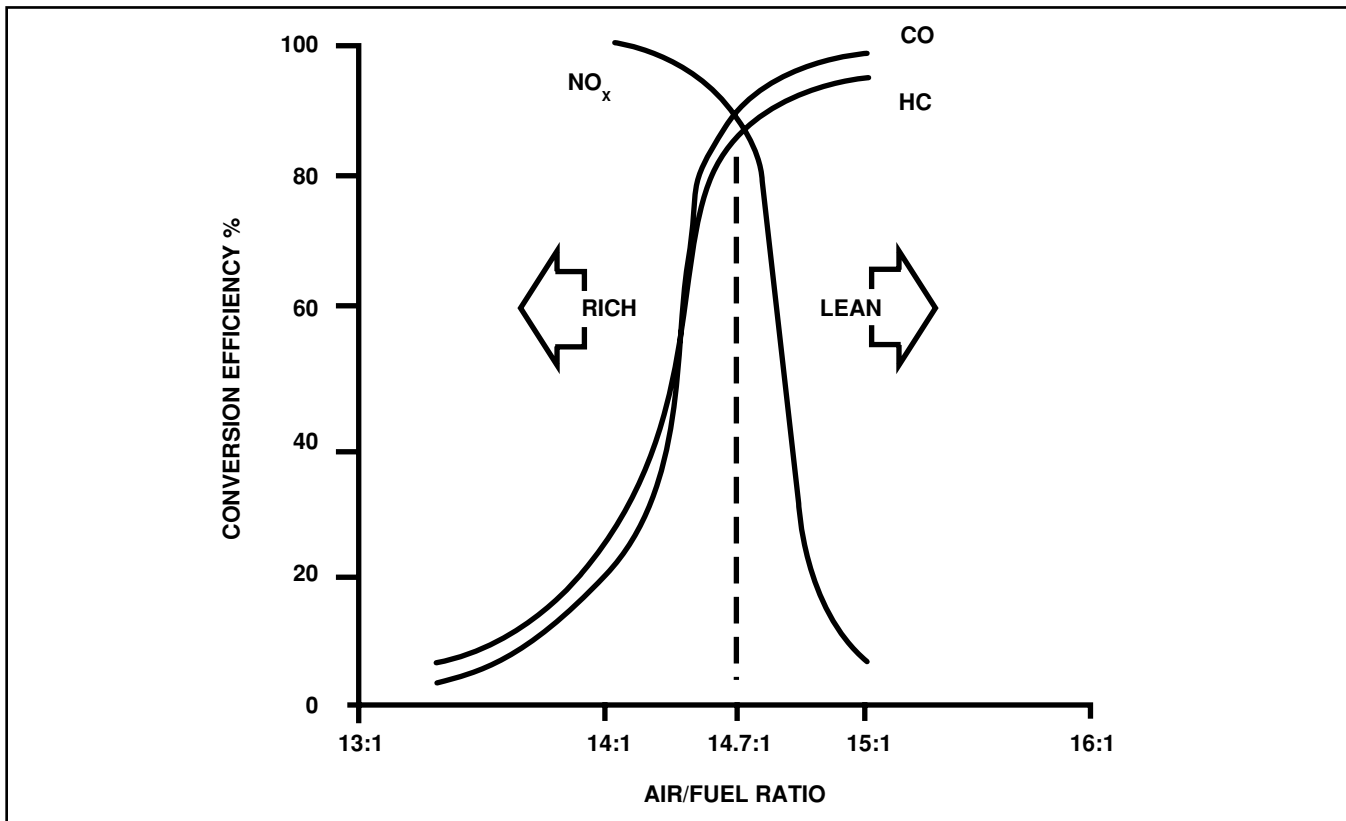

Figure 34 Conversion Efficiencies of a Three-Way Catalyst
The latest technology provides the use of a three-way catalytic converter on most automobiles. The three-way catalyst simultaneously converts three harmful exhaust emissions into harmless gases. Specifically, HC and CO emissions are converted into water ( $H_2O$ ) and carbon dioxide ( $CO_2$ ). Oxides of nitrogen ( $NO_x$ ) are converted into elemental nitrogen (N) and oxygen. The three-way catalyst is most efficient in converting HC, CO and  $NO_x$  at the stoichiometric air/fuel ratio of 14.7:1 (fig. 34). If the mixture becomes leaner than 14.7:1 (extra oxygen), the ability to convert  $NO_x$  drops. As the mixture becomes richer than 14.7:1 (less oxygen), the ability to convert HC and CO drops.